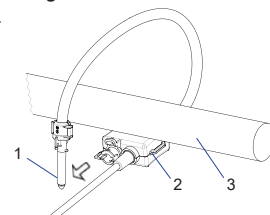

Figure 1
- To open the ARU Rogowski coil, turn the bayonet catch (1) to the left (anti-clockwise) and draw the coil cable out of the enclosure (2).
- Make sure that the arrow on the ARU label (4) is pointing towards the load
- Guide the Rogowski coil around the power cable (3) (Fig. 1).